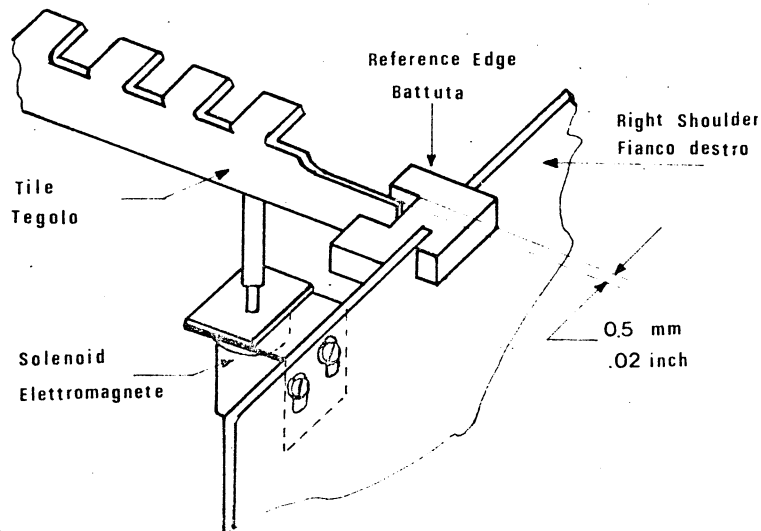

Fig. 8-20
- When the solenoid core reaches the end-of-run, the tile driven by it must be at 0,5 mm (.02 inch) from the front plastic reference edge (refer to fig. 8.20) fitted on the shoulder.
- . Move the solenoid assembly upwards till to obtain a tile to tile reference edge gap of 0,5 mm (.02 inch) (Refer to fig. 8.20)